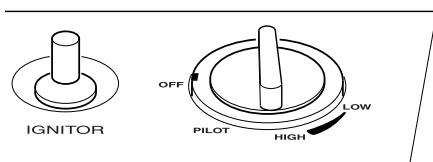

Figure 17 - Control Knob In The OFF Position
- Turn control knob clockwise ↻ to the OFF position (see Figure 17).
- Wait five (5) minutes to clear out any gas. Smell for gas around heater and near floor. If you smell gas, STOP! Follow "B" in the safety information in column 1. If you don't smell gas, go to next step.
- Slightly depress and turn control knob counterclockwise ↺ to the PILOT position. Press in control knob for five (5) seconds.